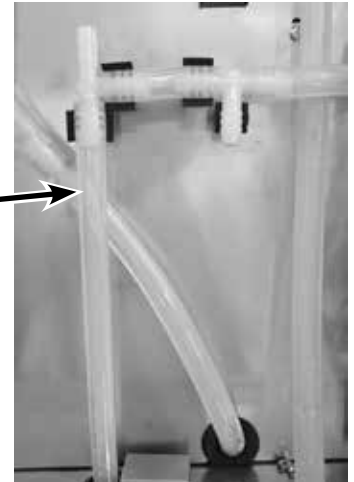

Figure 9
3. Check the sight glass to confirm that the water bath is full (see Figure 9).